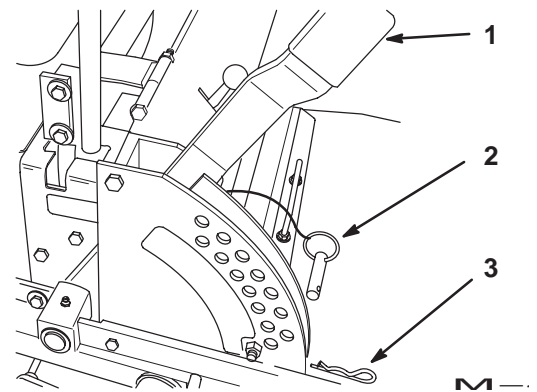

Figure 22
1. Raise the height-of-cut lever to the transport position (also the 5-1/2 in. (140 mm) cutting height position) (Fig. 22).
2. To adjust, remove hairpin cotter and clevis pin from height-of-cut bracket (Fig. 22).
3. Select hole in height-of-cut bracket corresponding to the height of cut desired, and insert clevis pin (Fig. 22).
4. Secure clevis pin with hairpin cotter (Fig. 22).